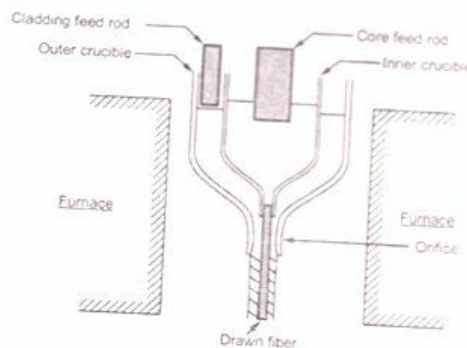

Fig. 1.8.7 Double-crucible method
- Double-crucible method is a direct melt process. In double-crucible method two different glass rods for core and Cladding are used as feedstock for two concentric crucibles. The inner crucible is for core and outer crucible is for cladding. The fibers can be drawn from the orifices in the crucible. Fig. 1.8.7 shows double crucible method of fiber drawing.